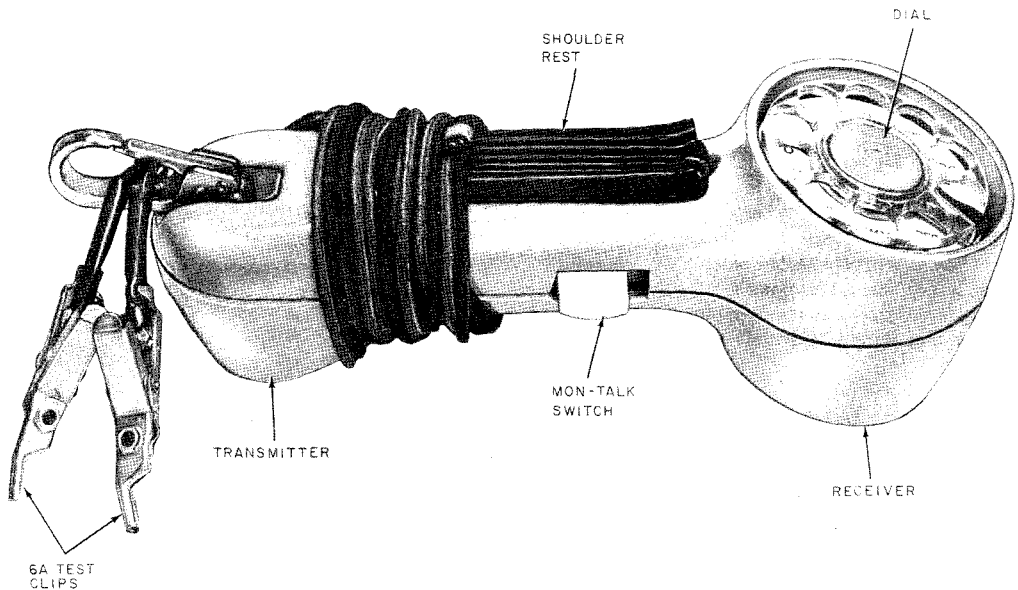

Fig. 1—1013B Handset—Dial Side
- 2.01 The 1013B handset (Fig. 1 and 2) consists of a T1 transmitter unit, an LB7 receiver